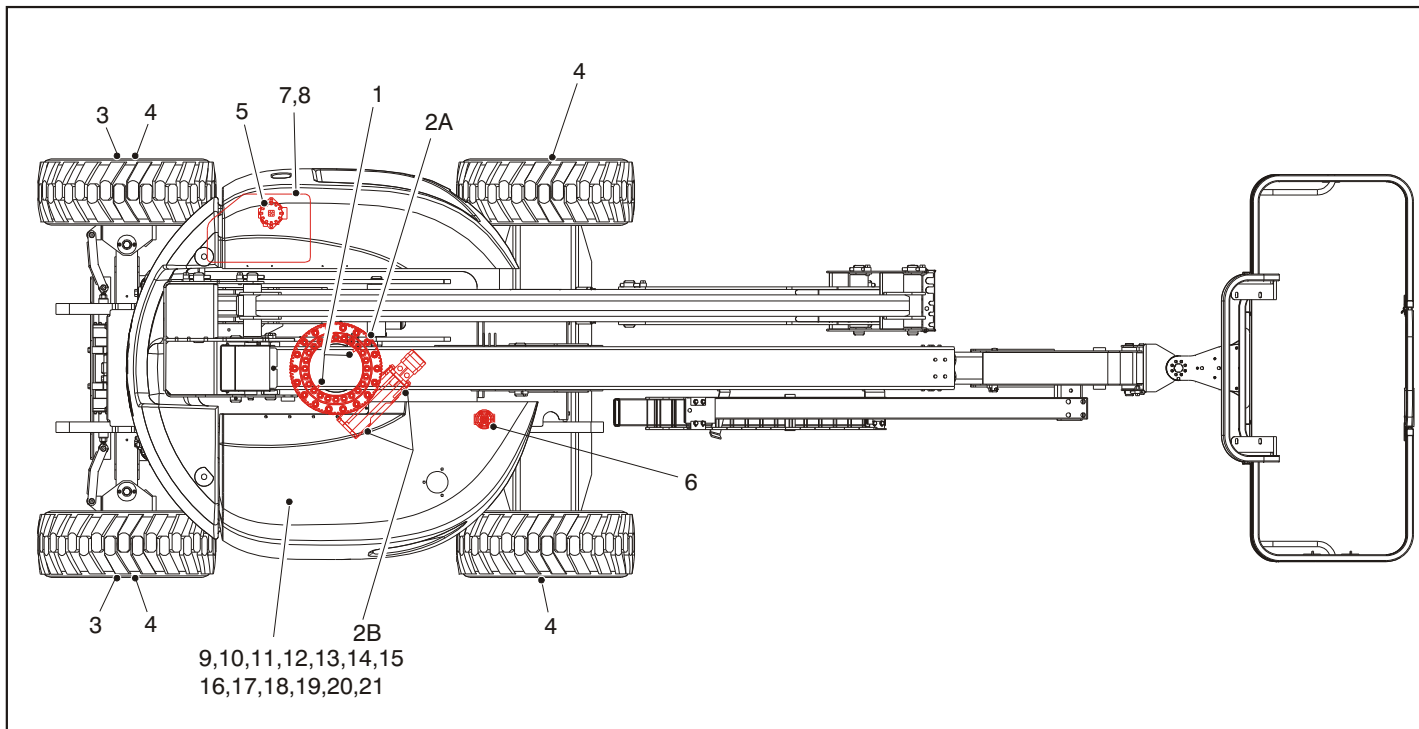

Figure 6-12. Operator Maintenance and Lubrication Diagram
**NOTE:** *The following numbers correspond to those in Figure 6-12., Operator Maintenance and Lubrication Diagram.*